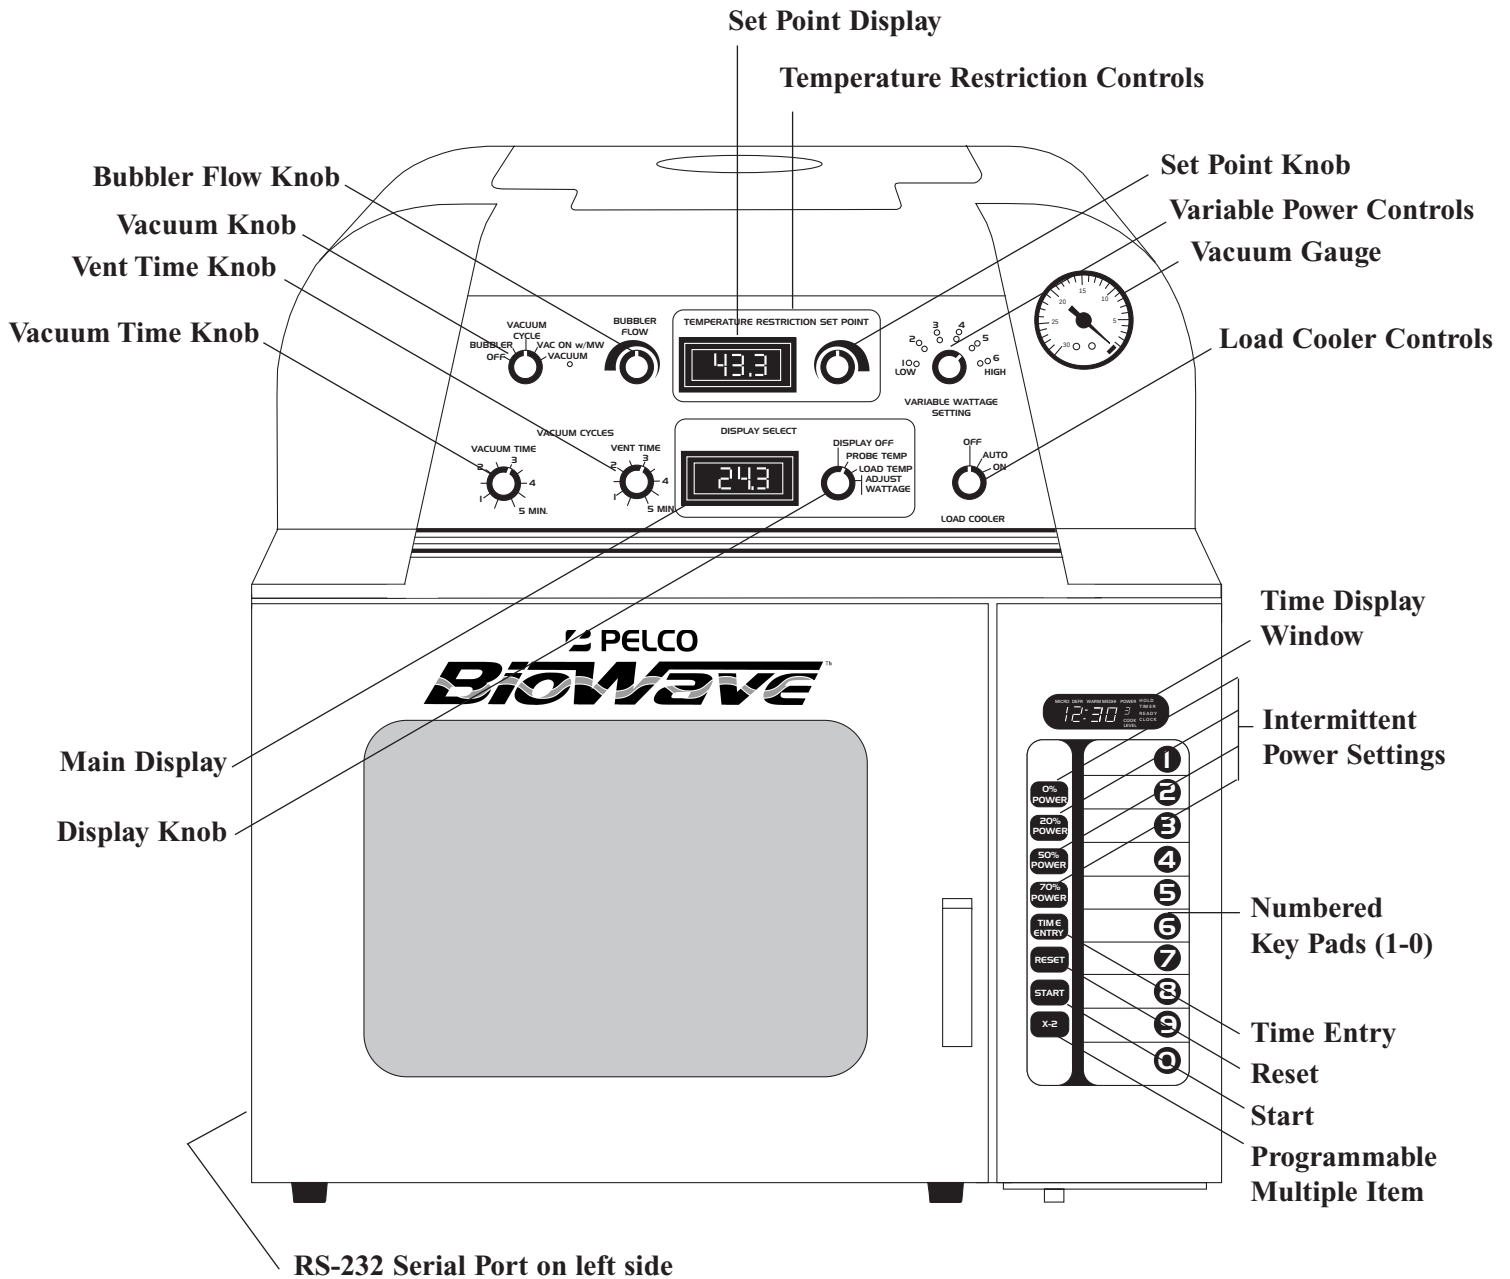

Figure 2 Microwave System, Front View
- **Variable Power Controls.** The 6 position “Variable Wattage Setting” knob, shown below and in Figure 2, selects the desired wattage from the following settings:
- **Temperature Restriction Controls.** The “TEMPERATURE RESTRICTION SET POINT”, shown to the right and in Fig. 2, controls microwave output when the temperature measured by the temperature probe exceeds that set on the Set Point Display. This control is achieved by automatically turning off the magnetron when the set point is reached and turning it back on when the temperature measured by the probe falls below the set point. The temperature restriction is set with the Set Point Knob. Temperature can be maintained within 0.5°C of the set temperature when using lower wattages (settings 1-3) or when using solutions that heat slowly to moderately. Solutions that heat vigorously, especially when higher wattages (settings 4-6) are used, can be maintained very close ($\pm 2^{\circ}\text{C}$) to the desired temperature maximum by setting the restriction at an appropriate point below the required maximum. The use of this set temperature does not conflict with either intermittent power setting or variable power levels that you might wish to use.
• **Load Cooler Controls.** The operation of the Load Cooler circulating pump is controlled by the three position “Load Cooler” knob, shown to the left and in Figure 2. In the OFF position the pump DOES NOT recirculate water within the microwave chamber. In the AUTO position, water circulation is synchronized with the microwave’s operation. The pump will remain on after a microwave run until the water load temperature has fallen below 30°C. In the ON position the circulating pump is ALWAYS running. The AUTO position is the recommended operation mode. Note that the fan for the Load Cooler is always on at low speed and turns to high speed whenever the load temperature exceeds 30°C. Before starting the Load Cooler make sure both internal hoses are connected properly. Place both hoses inside the chamber into a beaker filled with water (400ml of water in a 600ml beaker). Turn the Load Cooler switch to ON. Within several seconds the pump should begin quietly pumping water. Lift the “Load In” marked tube slightly above the water surface. Water should be flowing continuously out of this tube and the pump should be operating quietly. **Note:** The load cooler pump is self-priming. The PELCO ColdSpot® can now be connected to the system. See Appendix A, page 22 for instructions on the connection and use of the PELCO ColdSpot®.
• **Air Bubbler and Vacuum Controls.** The bubbler or vacuum features are selected using the five position knob shown to the left and in Figure 2. With the “VACUUM” knob in the “OFF” position neither bubbler nor vacuum is activated. With the “VACUUM” knob in the “BUBBLER” position, the vacuum is off and air is
The air bubbler control designated “BUBBLER FLOW”, shown above and in Figure 2, is a needle valve that accurately meters the air. As with all needle valves, you must be careful not to over tighten the valve to avoid damaging it. Air flow can be accurately regulated from full pressure to a single bubble every few seconds. Turning the valve counterclockwise increases the flow. Several different bubbler attachments are available depending on your particular application.
The vacuum system has three modes of operation. With the “VACUUM” knob in the “VACUUM” position, the bubbler is off and the vacuum is on continuously. The vacuum is drawn via the vacuum hose inside the microwave chamber (Fig. 7). With the “VACUUM” knob in either the “VAC ON w/MW” or “VACUUM CYCLE” positions, vacuum is synchronized with the microwave’s operation. The vacuum cycle switches on the vacuum for a preset time and then vents the line for a preset time. The vacuum on time can be set from 30 seconds to 5 minutes using the “VACUUM TIME” knob shown above and in Figure 2. The vacuum vent time can be set from 30 seconds to 5 minutes using the “VENT TIME” knob shown above and in Figure 2. The vacuum level can be read on the vacuum gauge to the right of the control panel (see to left). The LED below the “VACUUM” setting comes on when the vacuum pump is pumping.